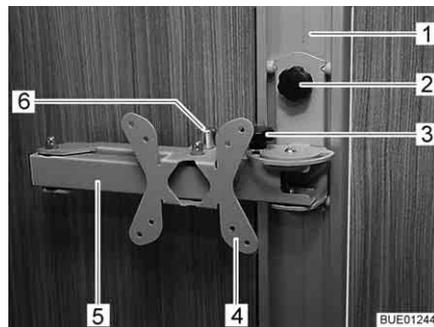

Fig. 45 Rail-mounted holder
- Undo the tommy screw (Fig. 45,2) and adjust the holder (Fig. 45,4) in the rail (Fig. 45,1) until it is at the desired height.
- Undo the tommy screw (Fig. 45,3).
- Pull the release knob (Fig. 45,6). The jointed arm (Fig. 45,5) is unlocked.
- Re-tighten the tommy screw (Fig. 45,3).
- Swing the flat screen back into its original position until you hear the jointed arm (Fig. 45,5) lock into position.
- Undo the tommy screw (Fig. 45,2), adjust the holder (Fig. 45,4) to the desired height and re-tighten the tommy screw.